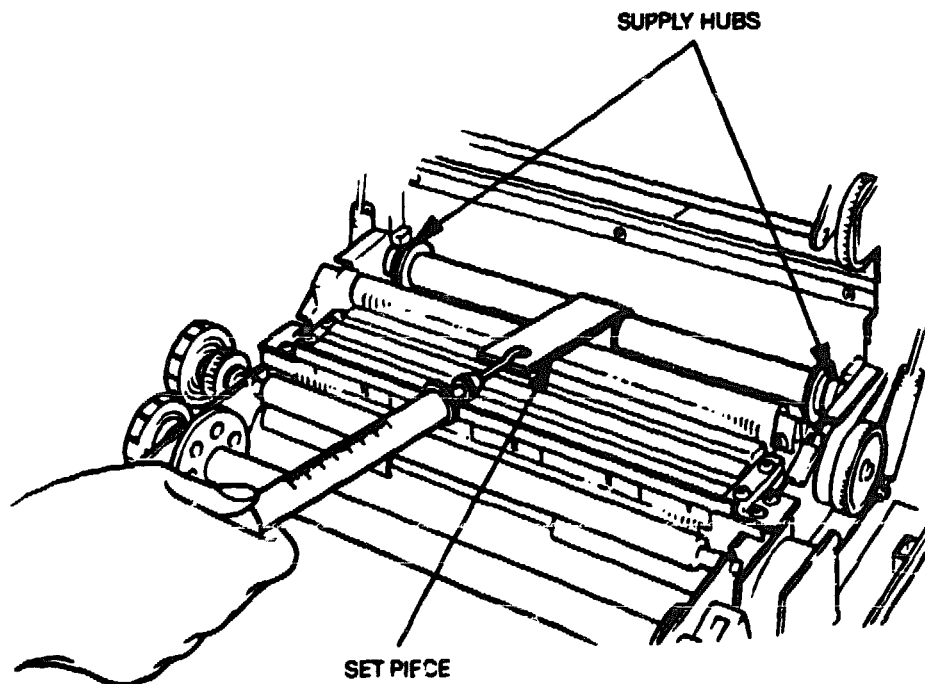

Figure 4-14 Ribbon Supply Roller Friction Adjustment
3. Wind the set piece two complete turns around the ribbon core (see Figure 4-14).